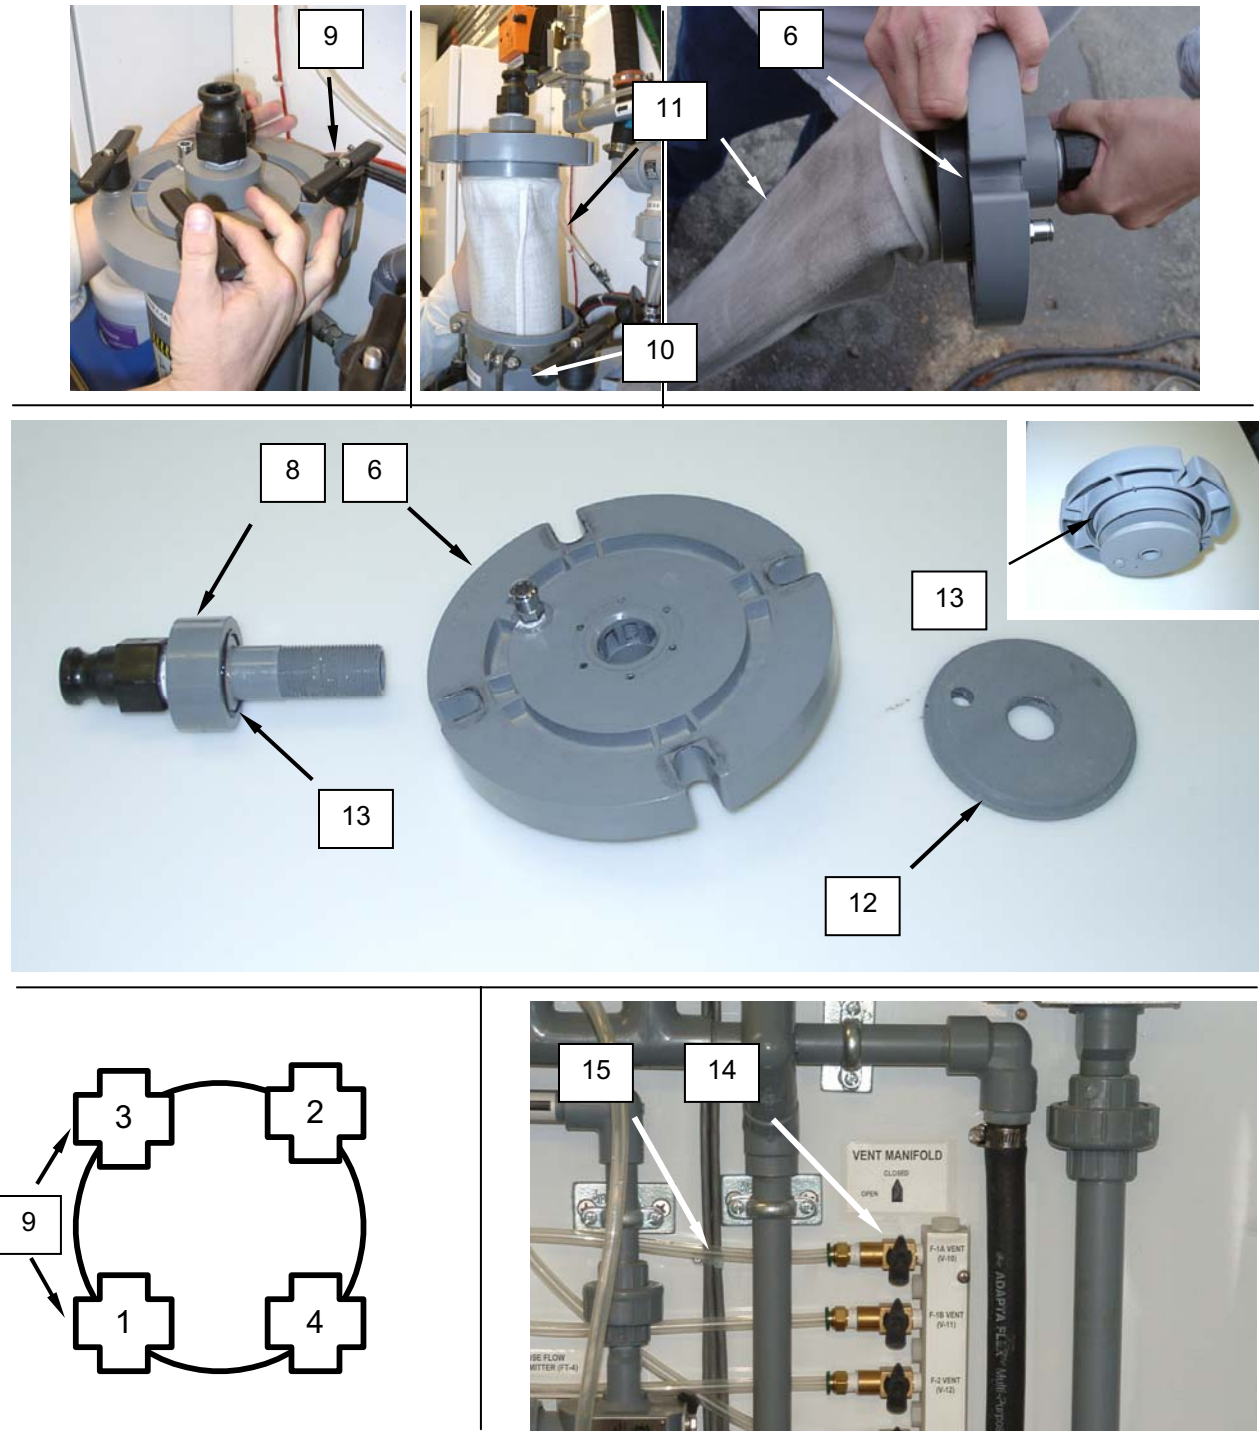
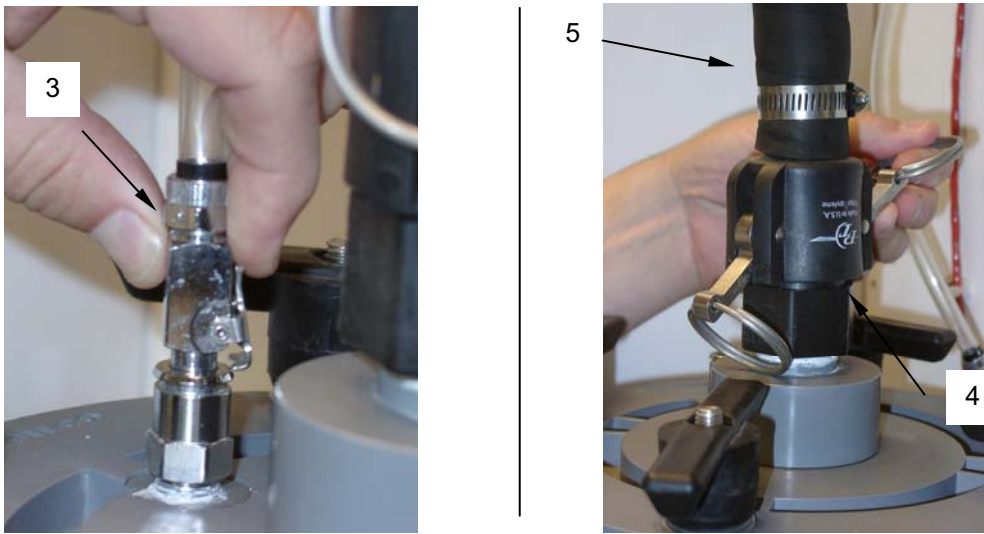

Figure 3. Replace the F-1A or F-1B Filter Elements.
Figure 4. Installing the Filter and hoses.
3. Loosen and remove the knobs (**Figure 3, item 9**) securing the filter cap (**Figure 3, item 6**) to the filter housing (**Figure 3, item 10**), and remove the filter cap, with filter (**Figure 3, item 11**), from the filter housing.
4. Loosen the QD male fitting (**Figure 3, item 8**) enough to remove the filter sock (**Figure 3, item 11**) from the filter retainer plate (**Figure 3, item 12**).
5. Ensure the filter cap (**Figure 3, item 6**) is clean of all residue.
7. Fit the replacement filter sock (**Figure 3, item 11**) to the filter retainer (**Figure 3, item 12**) so that grooved edge (flange) lays against the filter cap. Ensure the seam of the bag opening is thoroughly captured by the filter retainer.
8. Tighten the filter retainer (**Figure 3, item 12**) hand tight using the QD male fitting (**Figure 3, item 8**).
9. Ensure all O-rings (**Figure 3, item 13**) are clean, serviceable, and in place. O-rings must be coated with a light application of the silicone grease supplied in the service support package.
10. Wet the filter sock (**Figure 3, item 11**) thoroughly with source water.
11. Install the filter cap (**Figure 3, item 6**) with replacement filter (**Figure 3, item 11**) onto the filter housing (**Figure 3, item 10**). The filter sock may be folded to aid insertion into the filter canister.
12. Hand tighten the QD male fitting (**Figure 3, item 8**).
13. Use a strap wrench (**Figure 3, item 7**) to tighten the QD male fitting an additional ¼ turn.
14. Secure the filter cap (**Figure 3, item 6**) in place with the two back (3,2) retaining knobs, (**Figure 3, item 9**) tighten until meeting resistance. Balancing the tightening sequence.
16. Secure the filter cap (**Figure 3, item 6**) in place with the two back (3,2) retaining knobs, (**Figure 3, item 9**) tighten until meeting resistance. Balancing the tightening sequence.
17. Install the QD fitting (**Figure 4, item 4**) with hose (**Figure 4, item 5**) onto the QD male fitting (**Figure 3, item 8**).
18. Install the filter vent hose (**Figure 4, item 3**).